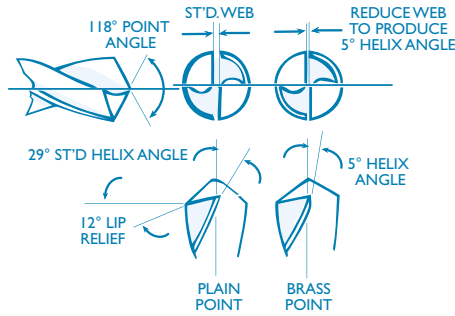

Figure 1: Drill Configurations
When drilling operations are performed on castings which are in the solution heat treated and aged (AT) condition, the drills should be shortened as much as possible to increase rigidity. A special point called a brass point (Figure 1) should be ground on the drill. This effectively reduces the helix angle to
Recommended speeds, feeds and drill configuration are shown in Table 4 and figure 1.